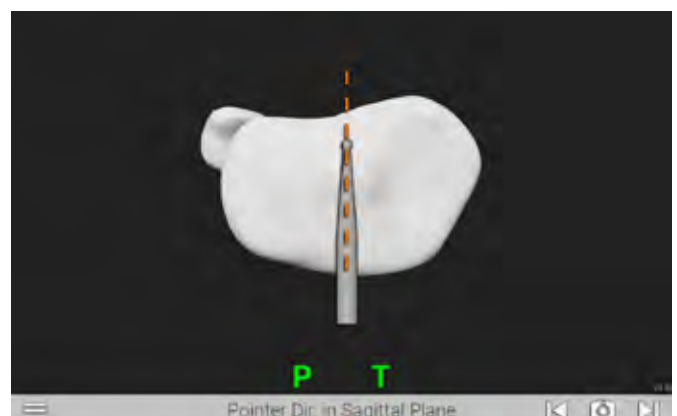

Figure 41
The Pointer Direction in Sagittal Plane screen is displayed (Figure 41). Position the tip of the Probe Tracker (P) at the posterior center (PCL insertion) and the shaft of the Probe Tracker (P) on the proximal tibia along a line connecting the center of the tibia and the medial-third of the tibia tubercle. Press the Forward button to register this orientation. The system will automatically advance to the next screen.